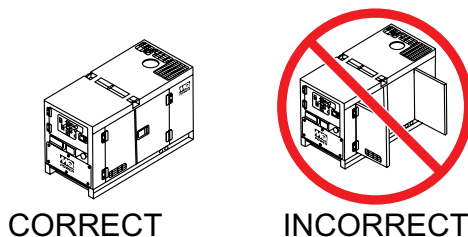

Figure 25. Engine Enclosure Doors
- Close all engine enclosure doors (Figure 25).